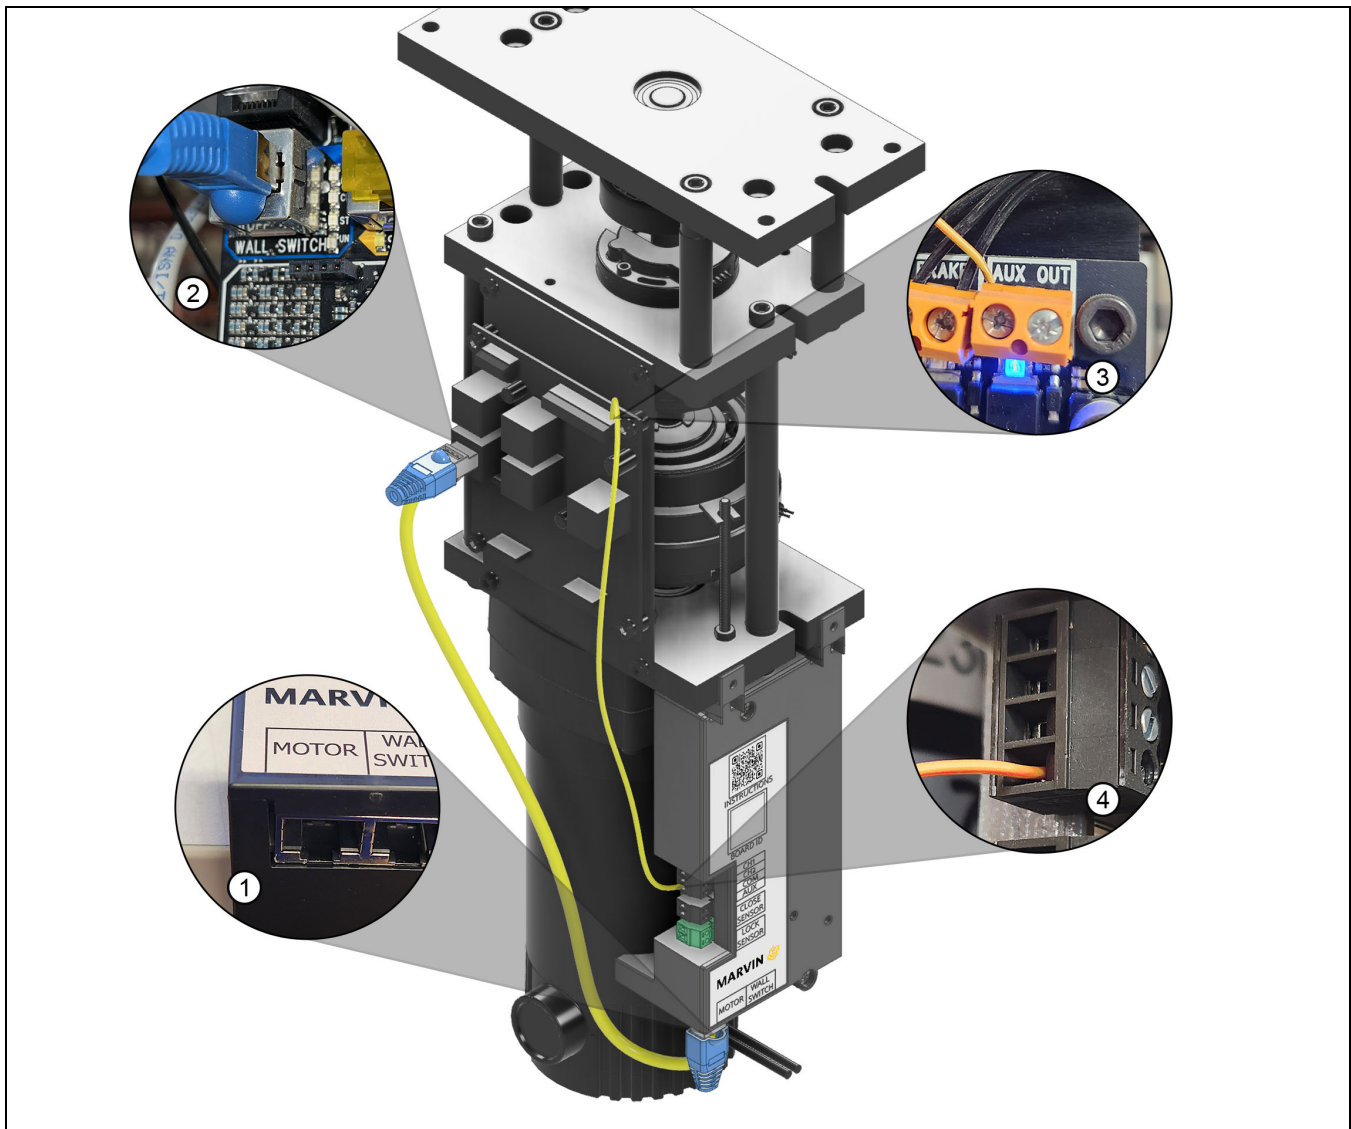

Figure 13 Motor with MCH control module installed
4. Connect the provided Cat5e cable to the RJ45 port labeled "MOTOR" on the bottom of the Marvin Control Module. See Figure 13 (1).
5. Connect the other end to the "WALL SWITCH" port on the motor circuit board. See Figure 13 (2).
7. Connect one end to the screw terminal labeled AUX on the motor circuit board and securely tighten. See Figure 13 (3).
8. Connect to the other end to the AUX port on the black 4 pin connector on the Marvin control Module. See Figure 13 (4).